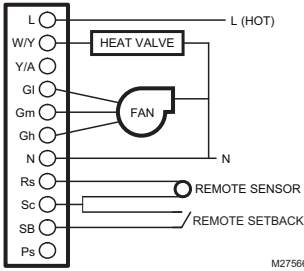

Fig. 7. Two pipes Heat-only wiring diagram (120 Vac/240 Vac/277 Vac shown).
- TB6575A1000, TB6575B1000 and TB6575C1000 fan coil thermostats, which are 120 Vac/240 Vac/277 Vac powered. Refer to Fig. 7–Fig. 13, beginning on page 8,